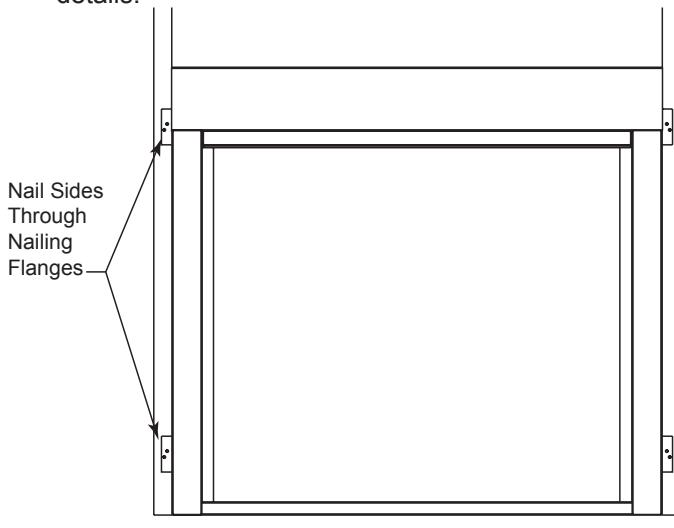

Figure 9 -
4. Anchor firebox to the side framing members using 8d nails or other suitable fasteners. *Figure 9*